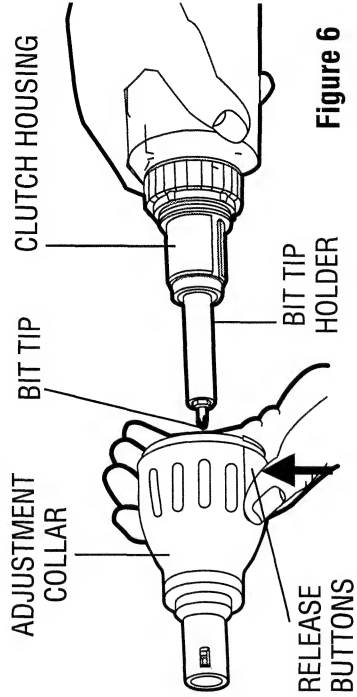

Figure 6
1. Press release buttons and remove collar from clutch housing. (See Figure 6)